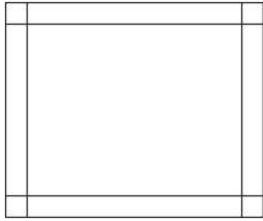

FIGURE 2.20: Four lines have been offset.
6. Click a third line, click inside the box, click the fourth line, and then click again inside the box (see Figure 2.20).